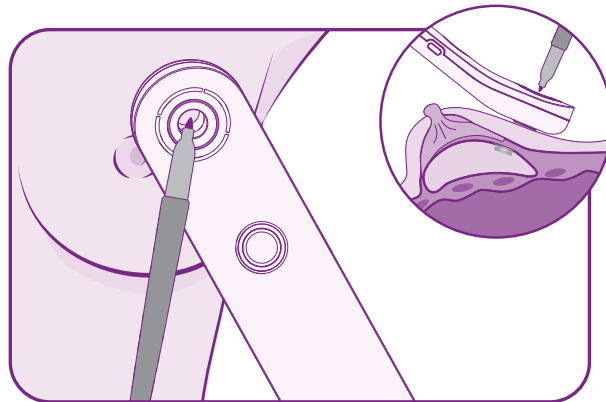

Figure 9: Marking injection point.
- Hold the device steady and mark the location of the injection through the opening of the device with a surgical marker perpendicular to the breast skin and/or pressing down firmly on the device to create a temporary indentation on the skin where the port is located. (Figure 9)